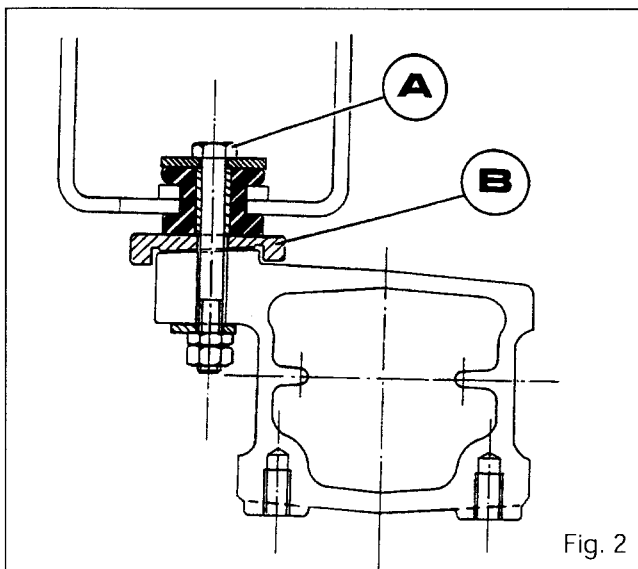
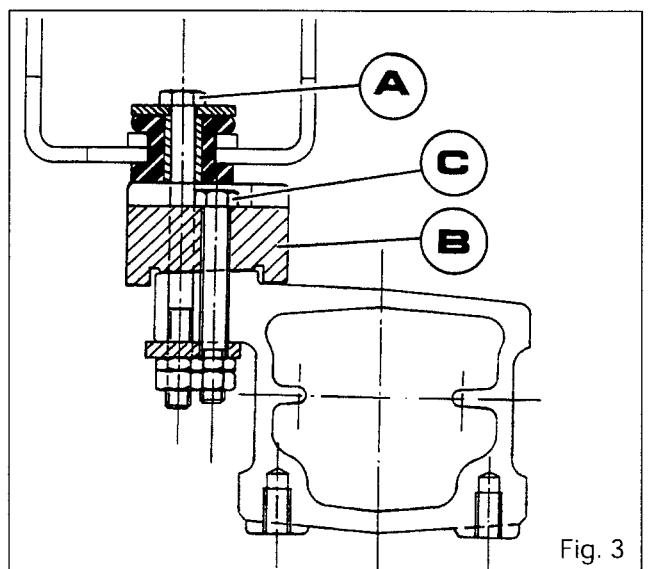

Fig. 2
Fig. 3
9. Remove the cab attaching bolts (A) (Low profile cab Fig.2) - (Hiline cab Fig.3).
11. Remove the spacer (B) (Fig.2 low profile cab).
**Note: Only for trumpet housing replacement on hiline cab tractors, remove bolts (A) and (C) and the spacer B (Fig.3).**
14. Unscrew the attaching bolts (20).